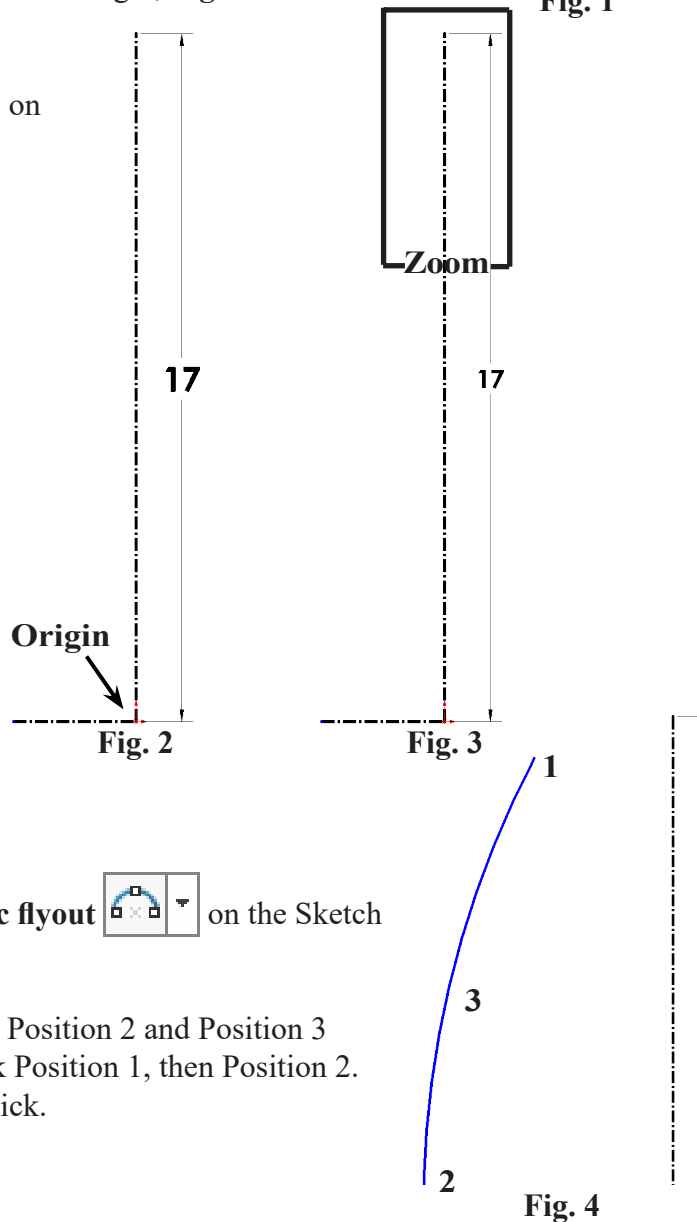

Fig. 4
Step 2. Click **3 Point Arc**  (S) in the **Arc flyout**  on the Sketch toolbar.
Step 3. Sketch an arc between the Position 1, Position 2 and Position 3 in **Fig. 4**. To sketch the arc, first click Position 1, then Position 2. Swing the arc out to Position 3 and click.